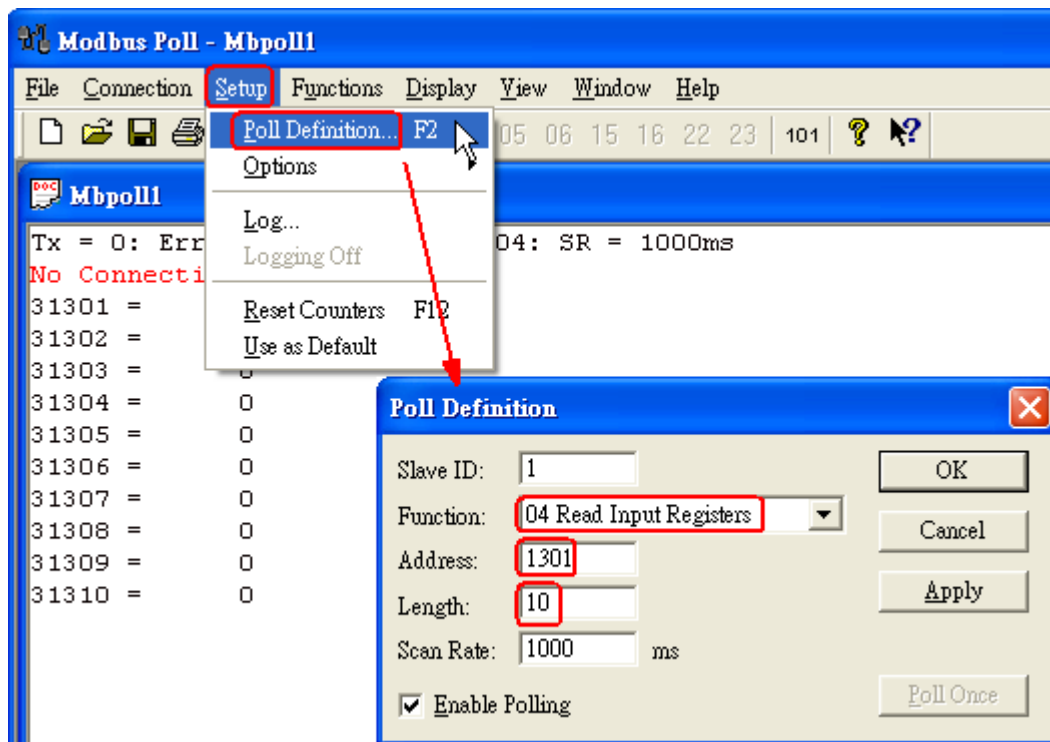

Figure 3-5 Modbus Parameters of “Modbus Poll” tool
- [1] In firmware v1.5 or newer, HRT-710 provides the MB Address **1300 ~ 1459** (**Default CMD(3)(S) Data for Module 0 ~ 15 in HRT-710** => The detailed information refers to the sector 4.3 of users' manual) and users can map the CMD(3) data of HART device to SCADA directly with these Modbus address 1300 ~ 1459.
- [2] For the "**Default CMD(3)(S) data of Module 0**" in HRT-710, the mapped MB address is **1300 ~ 1309**. The below MB/RTU client will use the "**Modbus Poll**" tool to show the CMD(3) data of HART device by polling Modbus address 1300 ~ 1309.
- <2> Set the "**Modbus**" parameters like Figure 3-5.